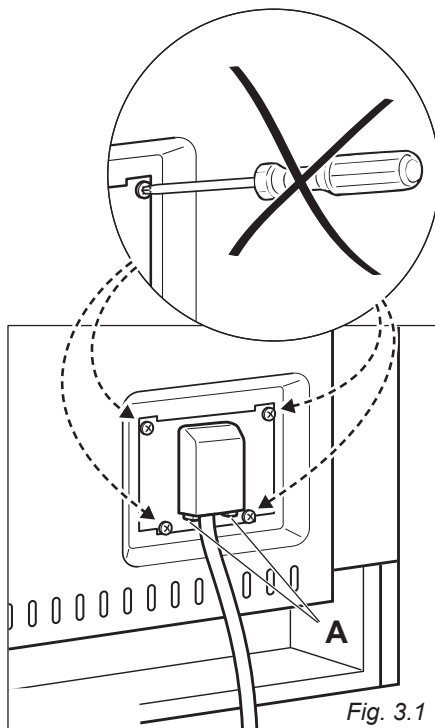
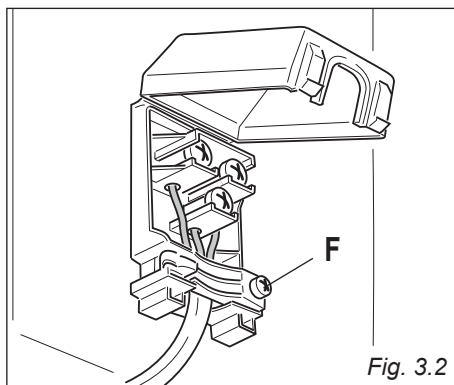

Fig. 3.1
Fig. 3.2
- Unhook the terminal board cover by inserting a screwdriver into the two hooks “A” (fig. 3.1).
- Open the cable gland by unscrewing screw “F” (fig. 3.2), unscrew the terminal screws.
Gas flow to the burners is adjusted by turning the knobs (illustrated in fig. 3.1) which control the safety valves.
1. Press in the corresponding knob and turn counter-clockwise (fig. 3.2) to the full flame position marked by the  symbol (fig. 3.1); hold the knob in until the flame has been lit.